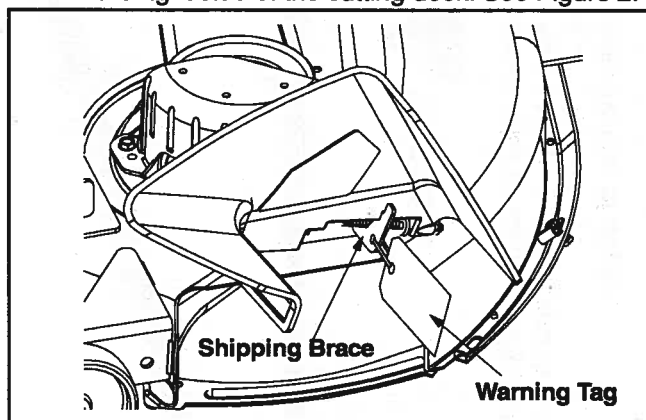

Figure 2
- Locate the shipping brace and warning tag found on the right side of the cutting deck. See Figure 2.